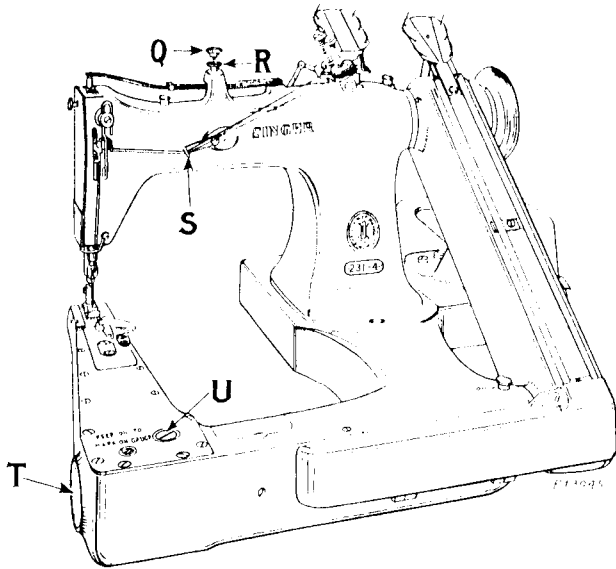
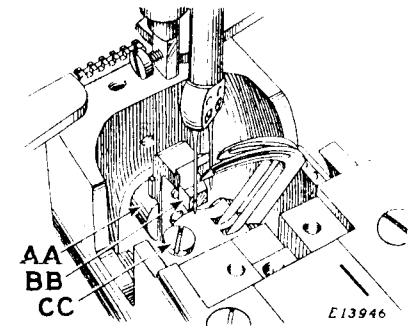
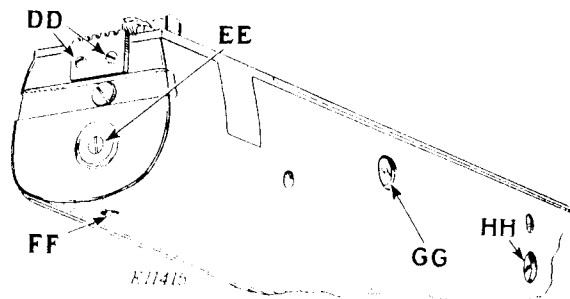
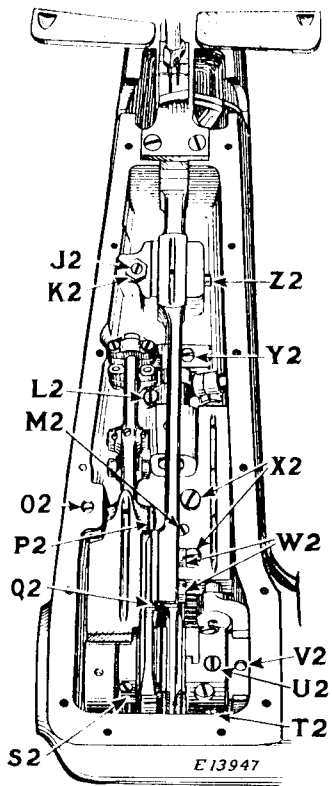

Fig.13
Fig. 15
Fig. 16
Fig. 21
crease the pressure, loosen the lock nut (R, Fig.13) and turn the thumb screw (Q) downward. To decrease the pressure, turn the thumb screw upward. Then tighten the lock nut.
The length of the stitch is controlled by the feed eccentric, which may be adjusted by removing the screw plug (U, Fig.13) in
The loopers should be at the end of their backward stroke, with the points farthest from the needles, at the same time that the needle bar is at its lowest point. In this position, the point of the front looper should be about  $9/64$  inch from the center of the front needle. The loopers may be moved to this position after loosening the clamping screw (CC, Fig. 15). The looper timing is set by having the first (when turning toward the operator) of the two set screws in the looper eccentric (S2, Fig. 21) bear against a flat on the shaft.
To adjust the eccentric, remove the arm cover and turn the balance wheel until one of the two set screws appears under the hole (V2, Fig. 21). Loosen this screw about a quarter-turn, leaving it below the surface of the eccentric so that it will not score the inside of the bearing. Bring the other set screw under the
To bring the loopers the same distance from the needles on their forward and backward strokes, they may be moved sideways on the looper shaft after loosening clamping screw (CC, Fig. 15).
The function of the needle guard (BB, Fig. 15) is to prevent the needles springing into the path of the loopers when the loopers are on their forward stroke. The needle guard should be set as close as possible to the needles without touching them. To set the needle guard, loosen the set screw (FF, Fig. 16) underneath the end of the cylinder arm and move the needle guard to the correct position.
When the feed dog is at its highest point, practically the full depth of the teeth should project through the slots in the throat plate. The feed dog may be raised or lowered by turning the eccentric pin (GG, Fig. 16) a part of a turn in either direction. It is not necessary to lock this eccentric pin, as the necessary friction is provided by pressure of a set screw and lock nut inside the bed.
To remove the thread cutter blade for honing, take out the two screws (DD, Fig. 16).
The needle thread eyelet (S, Fig. 13) should be set so that when the loopers are shedding the needle loops on their backward stroke, the thread will not snap off the points of the loopers nor be drawn through the tension discs with enough tension to break the thread.
The set screw (T-2, Fig. 21) in the feed eccentric should bear against the flat on the shaft.
bearing hub, which is just to the left of the take-up. Loosen one of the set screws in the looper avoiding-motion eccentric (V2, Fig. 21), but do not back the screw out far enough to score the bearing when the shaft is turned to bring the other set screw under the hole. Back out the second screw into the hole in the sleeve to hold the eccentric in position when the shaft is removed. Loosen the two set screws (T2 and U2) in the feed eccentric, also the two set screws in the feed lifting and looper motion eccentric (S2). Remove the plate (T, Fig. 13) and take out the cap screw at the left end of the shaft. Withdraw the shaft, with the right bearing case, from the pulley end.
To remove the looper driving mechanism complete, first remove the lower rotary shaft. Loosen the set screw (O2, Fig. 21) and drive out the top pin (P2). Loosen the two set screws in the collar directly under the pin (P2), and the set screw (M2), then unscrew the lower pin (HH, Fig. 16). The entire assembly may now be lifted out.
Remove the presser foot, throat plate and feed dog. Loosen nut (K 2, Fig. 21) and back out the friction screw (J2) until the eccentric pin (Z2) can be pushed out. Swing the feed bar upright and take out the two screws (W2). Slide the feed lifting fork (Q2) upward and off, then lower the feed bar to a horizontal position and lift it off the eccentric block.
Loosen screws (EE and FF, Fig. 16), remove the needle guard and the needle guard holder (AA, Fig. 15). Loosen the clamping screw (CC, Fig. 15) and remove the looper holder from the looper shaft. Loosen the clamping screws (L2 and Y2, Fig. 21) in the looper driving arm and the adjustable collar. The looper shaft may be withdrawn through the needle guard holder opening at the looper end of the bed.